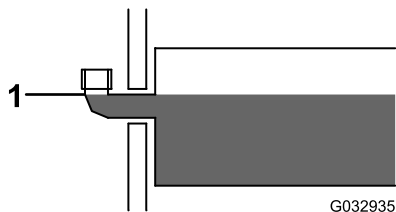

Figure 32
3. Remove the fill cap from the hydraulic reservoir (Figure 32).
4. Slowly fill the reservoir with BOSS high-performance hydraulic fluid to the bottom of the fill elbow (Figure 32).